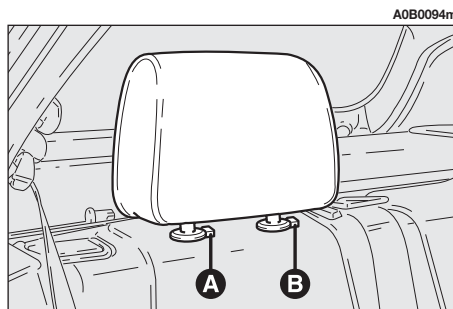
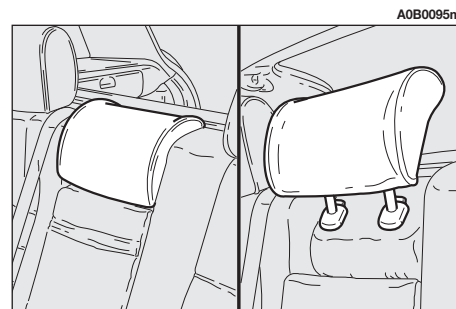

fig. 5
fig. 6
The car is fitted with two headrests for the side seats (**fig. 5**). On request for versions/markets where applicable, the car may also be fitted with a third headrest for the central seat (**fig. 6**).
- Press the buttons (**A** and **B-fig. 5**) at the same time and remove the headrests.
- To refit the headrests keep the buttons pressed (**A** and **B-fig. 5**) and insert them completely.